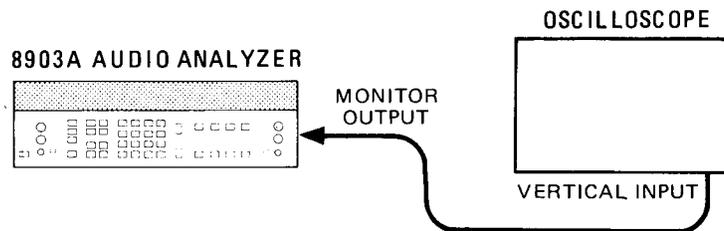

Figure 3-6. Basic Functional Checks Setup
4. Connect the oscilloscope to the MONITOR output on the rear-panel (see Figure 3-6).